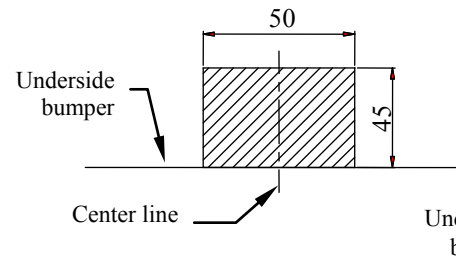

Fig. 2 Bumper cut out
3. In chassis members are small elements which can make some problems when You try to put side brackets (pos. 7 and 8). Bend him.
4. Slip side brackets (pos. 7 and 8) and fix it to chassis members through original holes pos. A and fish-plates pos. 6 using bolts M12x40mm (pos. 10) – loosely.
5. Between mounted brackets put body of the towbar (pos. 1) and fix it by bolts M12x40mm (pos. 10). Tighten all bolts.
7. In central part of towbar fix bumper handles (pos. 5) using bolts M8x25mm (pos. 12) and below the car through holes B using bolts M10x25mm (pos. 11).
8. Assemble the rear bumper after cut out fragment according to figure 2 or 3. Next fix bumper to the towbar using two bolts M5x20mm (pos. 13).
10. Fix tow-ball (pos. 2) and socket plate (pos. 3) by bolts M12x75mm (pos. 9) from equipment.